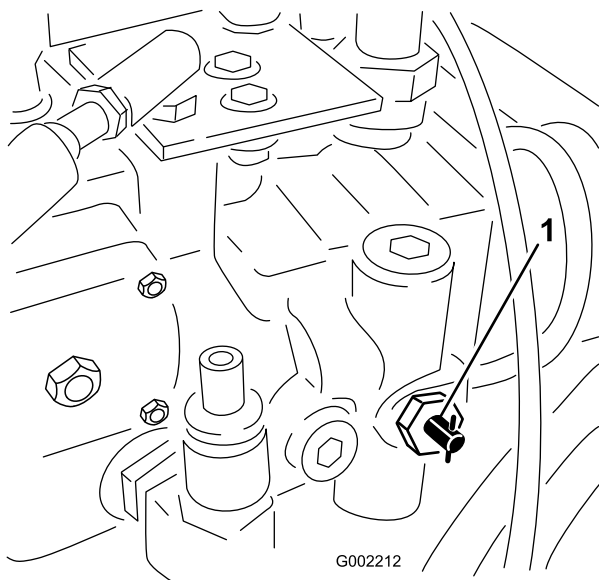

Figure 29
1. Rotate the tow valve (Figure 29) 90° in either direction to open it.